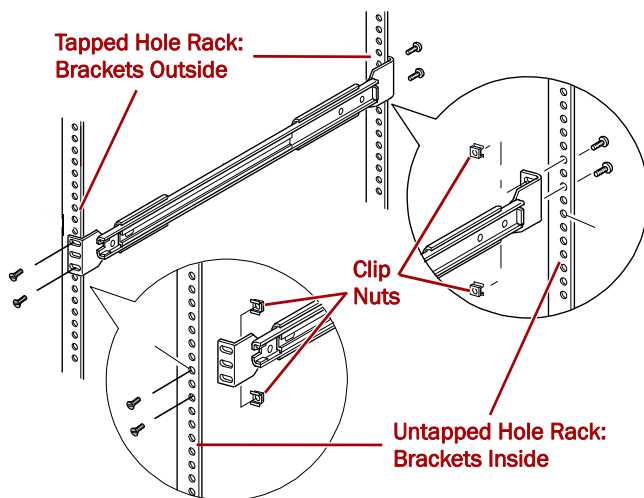

Figure 5. Installing Slide Member Fasteners
- Using four screws, loosely attach each pre-assembled rail set (Figure 5):